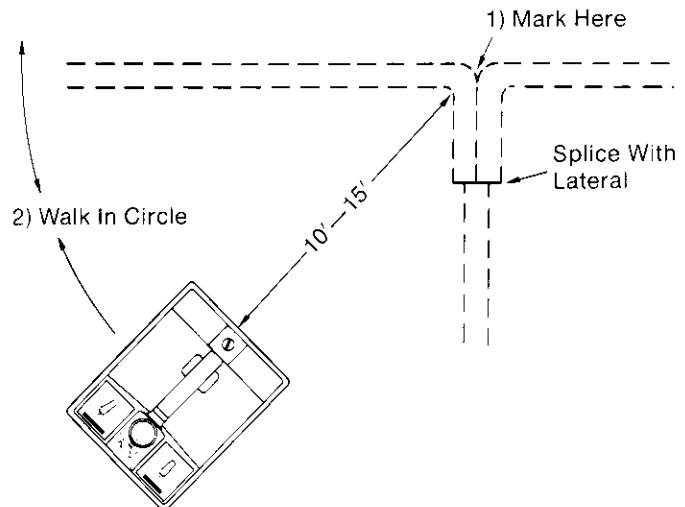

Fig. 17 — Locating Laterals, Drops from Splice, Encapsulation, Riser, etc.
- (1) Switch the receiver to PEAK mode and walk 10 to 25 feet off the path, away from the mark (Fig. 17). Hold the receiver so that the meter end of the handle points directly AWAY from the mark. Walk in a circle around the mark with the receiver always pointing outward.
- (2) The receiver will remain relatively quiet until it crosses a lateral. When directly over a lateral, tone will be at its loudest. As there may be several laterals radiating from the closure, mark each occurrence of tone around the circle. After each lateral is located, its path may be traced and marked.